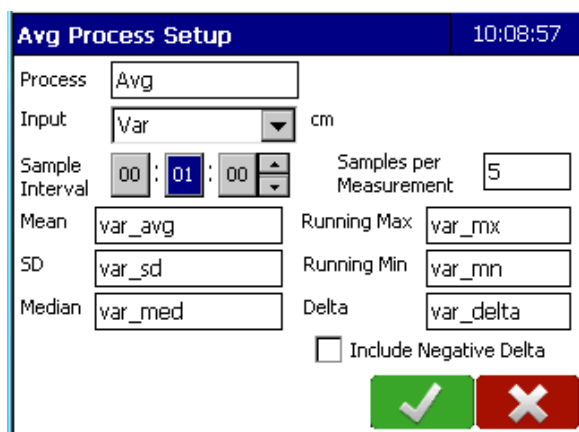

Figure 7-19: Avg Process Setup screen
In this example there are 5 samples taken in the measurement and a sample is taken every minute. Figure 7-19 shows the example process and the assigned variable names for the different components. Looking at the period of time between 14:30 and 14:35 (Figure 7-19), note that the sample taken at the 14:30 mark is not included in the Maximum and Minimum (var_mx and var_mn) calculations. Rather, these variables take the next 5 samples AFTER the commencement of the window. Note the var_mn shows 9 (the first sample taken after 14:30) and the difference between var_mx and var_mn is 4 (13-9=4). The Delta (var_delta) includes the sample taken at the commencement of the 5 minute sample window (8) so includes the measurement taken at 14:30 for a Delta (var_delta) of 5 (13-8=5).
Figure 7-19 shows the Weighted Average process (named Case_WAvg) set-up for a three minute case temperature (TCase) weighted average (TC_WCavg). TCase is sampled every 1 minute.